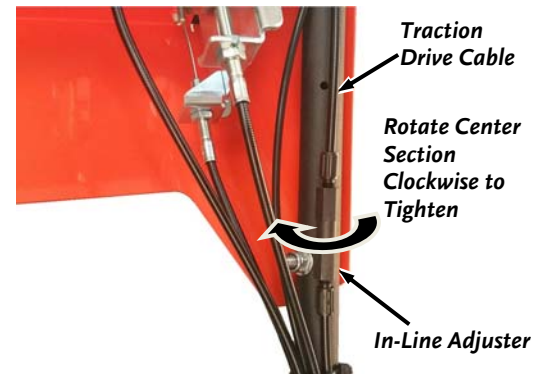

Figure 25
- Locate the Traction Drive Cable along the right Handlebar (**Figure 25**). There is an In-Line Adjuster to change the length of the Cable.